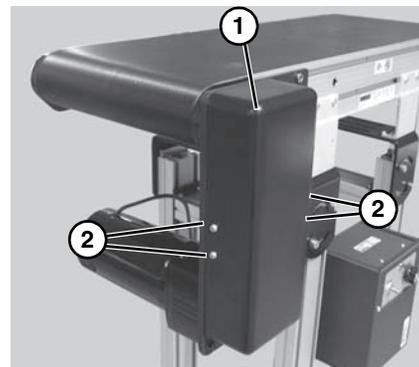

Figure 9
9. Install cover (Figure 9, item 1) with four (4) screws (Figure 9, item 2). Tighten screws to 35 in-lb (4 Nm).
1. Remove four (4) screws (**Figure 9, item 2**) and remove cover (**Figure 9, item 1**).
4. Install cover (**Figure 9, item 1**) with four (4) screws (**Figure 9, item 2**). Tighten screws to 35 in-lb (4 Nm).
6. Install cover (**Figure 9, item 1**) with four (4) screws (**Figure 9, item 2**). Tighten screws to 35 in-lb (4 Nm).